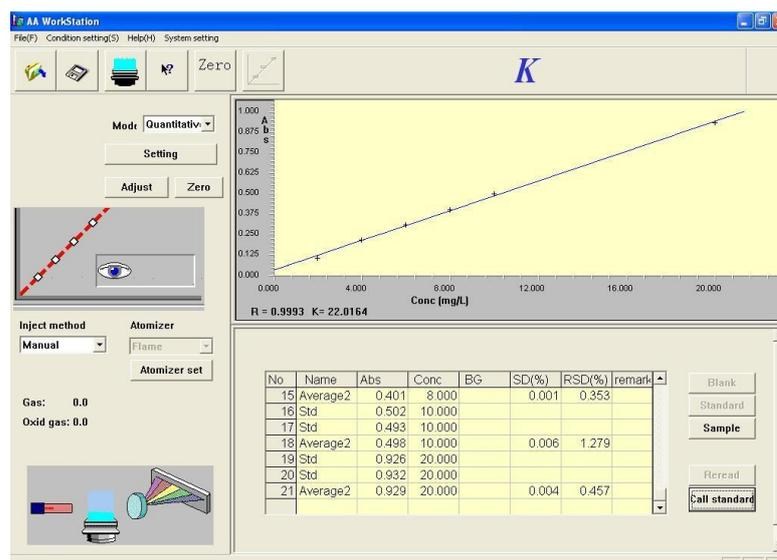

Figure 4-35-2
b. Select the file to be opened, and press "Open" to go to the "Display information" dialog. The dialog displays the saved standard sample. Press "OK" to enter the standard sample. See Figure 4-35-2.